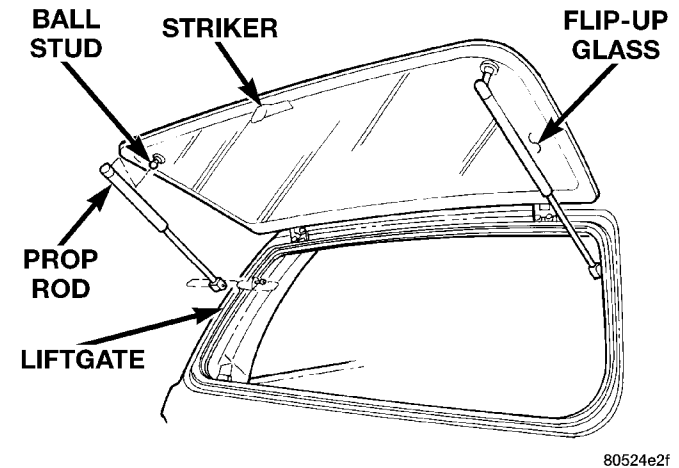

Fig. 66 Prop Rod
- (1) Remove liftgate upper trim panel.
- (2) Open liftgate flip-up glass. Support glass for ease of repair.
- (3) Using a small flat blade or equivalent tool, gently pry open the locking caps on the end of the prop rod.
- (4) Remove prop rod cylinders from ball studs (Fig. 66).